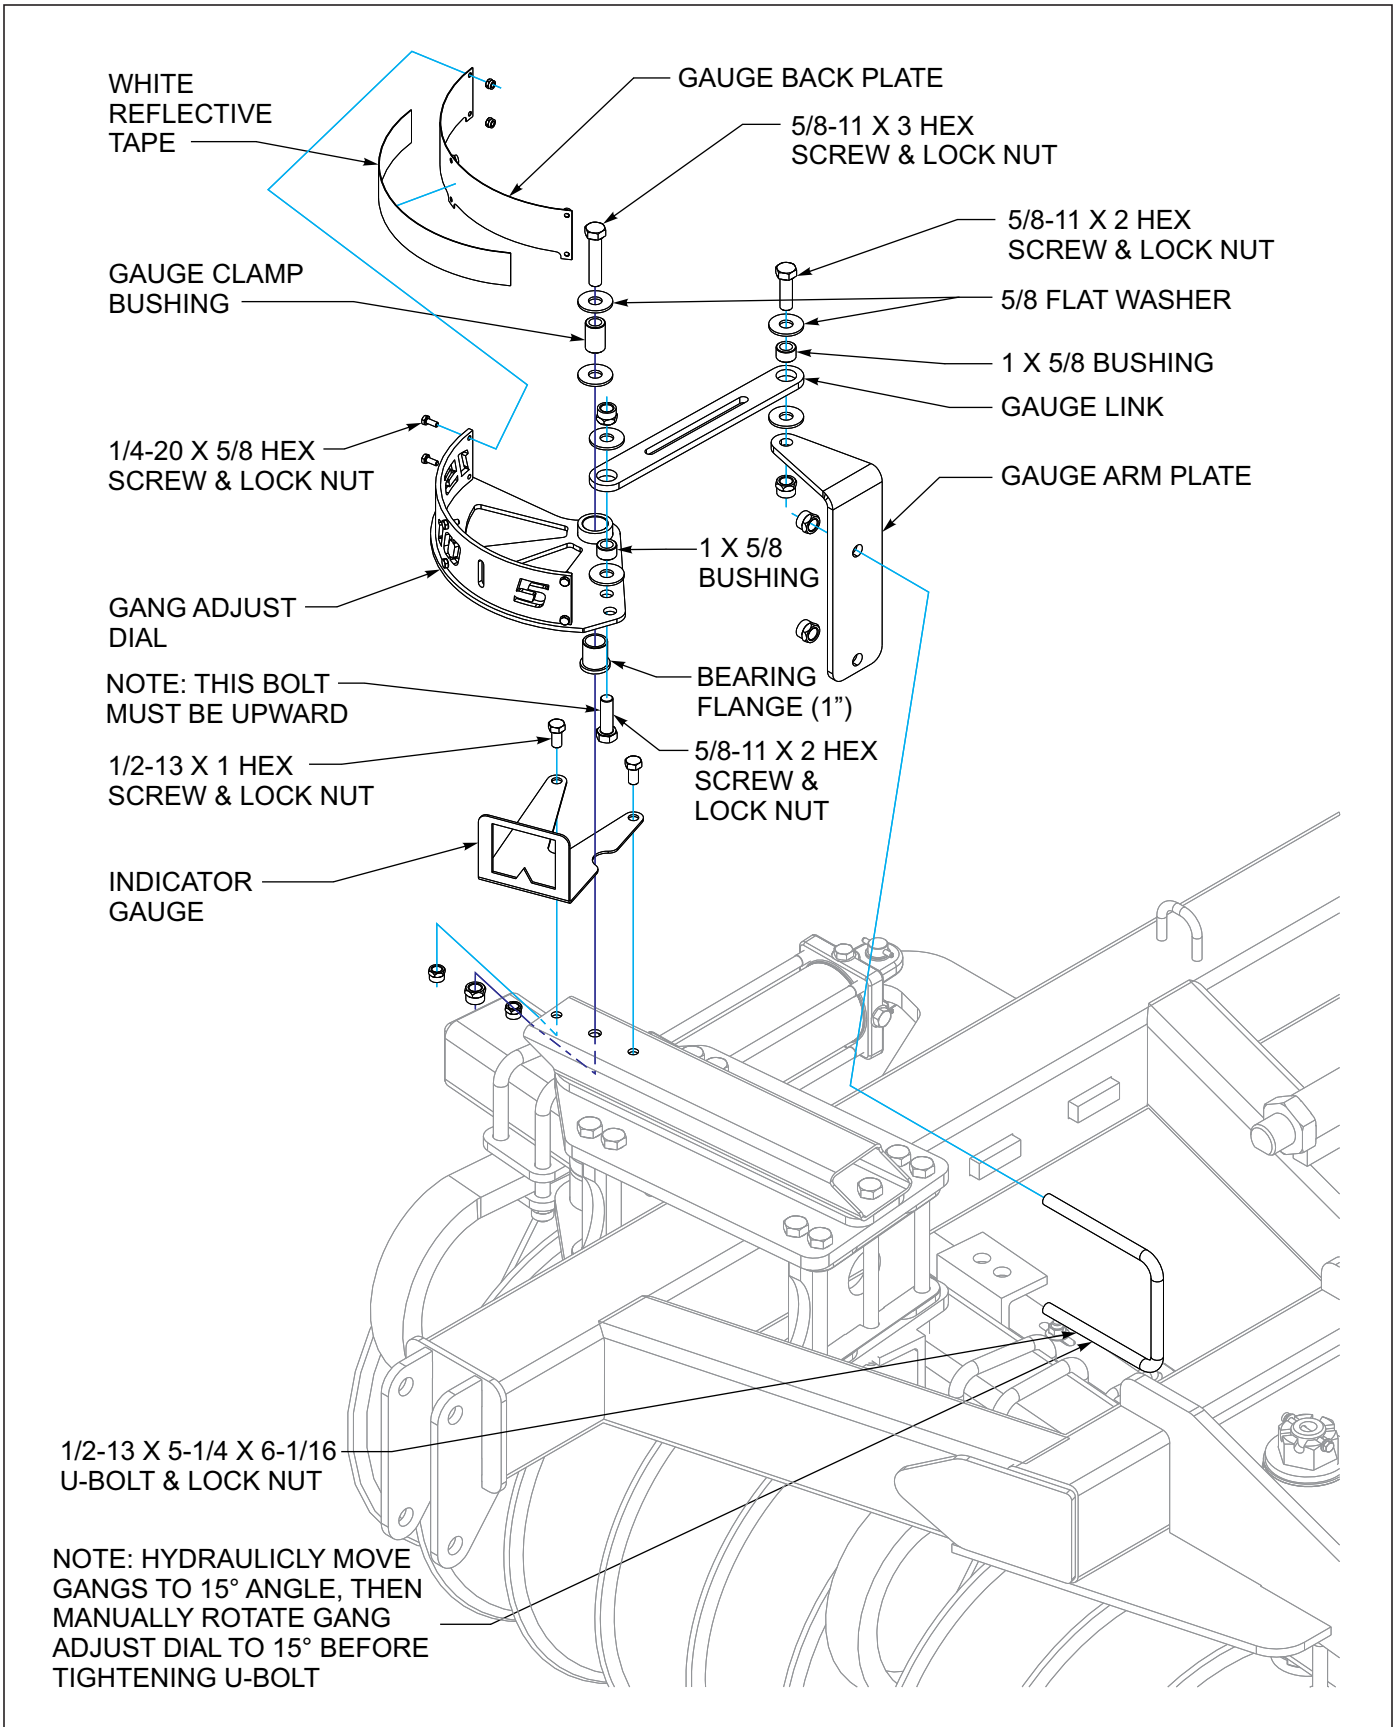
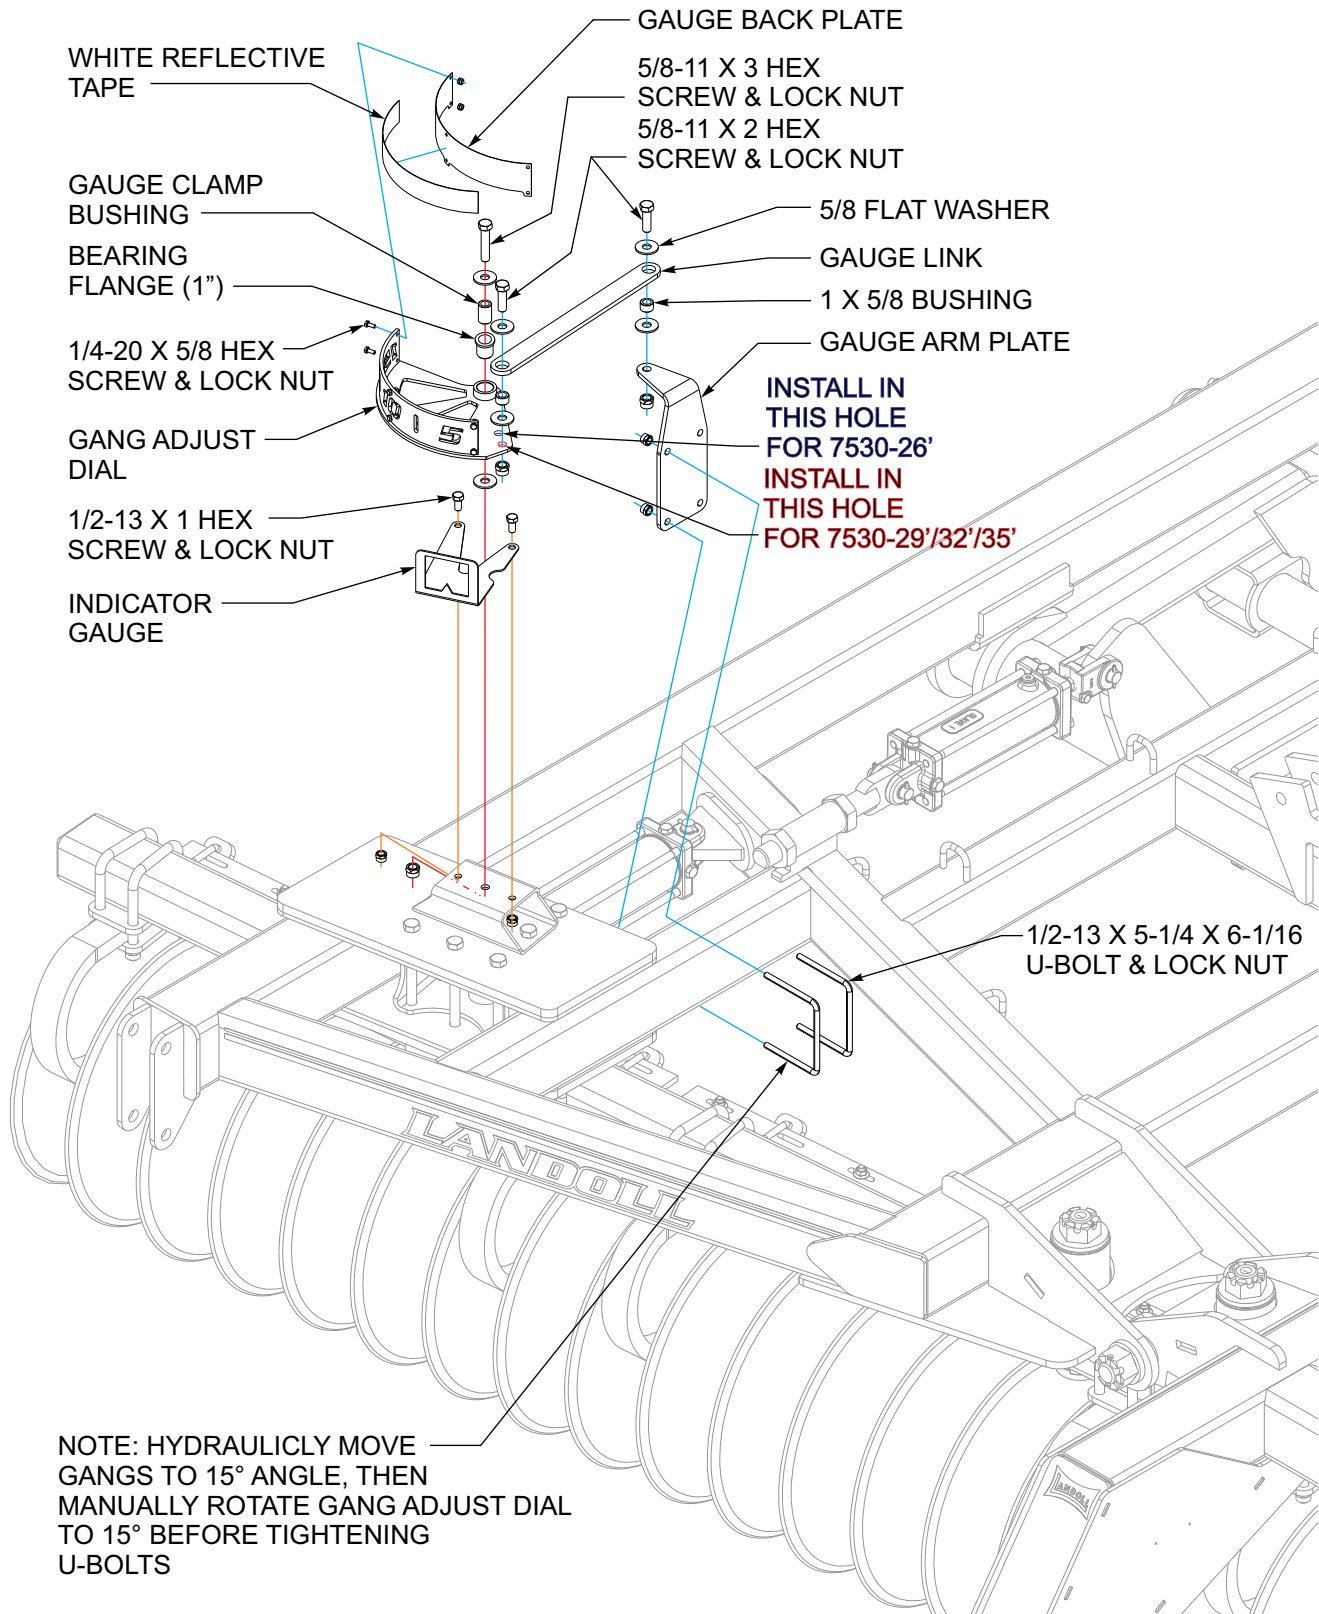

Figure 3-27: Disc Gang Adjust Gauge Installation 7530-23'
Figure 3-28: Disc Gang Adjust Gauge Installation 7530-26'/29'/32'/35'
Refer to Figures 3-27 - 3-38 for gang hydraulic diagrams for 7530-23'/26'/29'/32'/35' models.
6. Install the gang adjust gauge as shown (**See Figures 3-27, 7530-23', See Figures 3-28, 7530-26'/29'/32'/35'**) The gauge link will need to be mounted to the second hole in the gang adjust dial for the 7530-23'/26' VT and the first hole for the 7530-29'/32'/35' VT.
To calibrate gauge the disc gangs will need to be adjusted to the 15 degree angle with hydraulics. Then manually rotate gang adjust dial to 15 degree setting in indicator gauge. Now the 1/2-13 x 5-1/4 x 6-1/16 u-bolts and lock nuts may be tightened(See Figures 3-27, 7530-23', See Figures 3-28, 7530-26'/29'/32'/35').